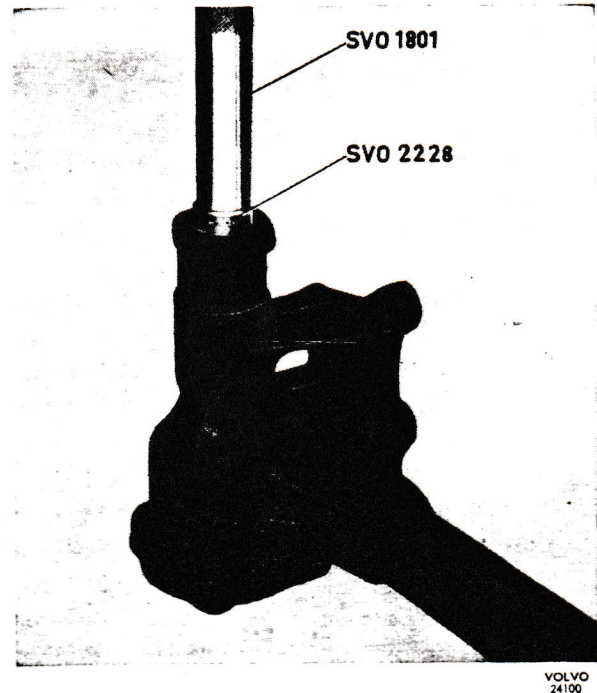

Fig. 31. Fitting bush
1. Press the pitman arm shaft bushes into the housing from each direction with tool SVO 2228 and SVO 1801, see Fig. 31. In late production steering boxes the upper of the original bushings is provided with oil grooves. In this way the bushings receive slightly better lubrication when they are new. Such oil grooves are not, however, necessary and in order to avoid the risk of faulty fitting the bushes are alike and without oil grooves when they are sold separately.